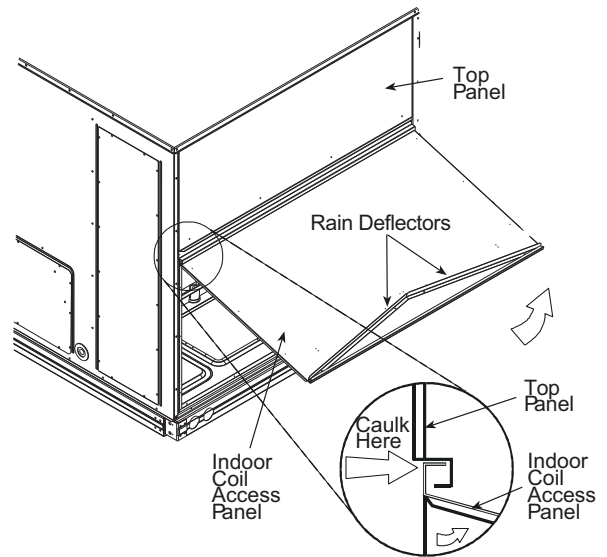

Fig. 20 — Indoor Coil Access Panel Relocation
1. The indoor coil access panel will be used as the top of the hood. If the panel is still attached to the unit, remove the screws along the sides and bottom of the panel. See Fig. 20.
7. Install the 2 rain deflectors on the edge of the hood top as shown in Fig. 20.
8. Caulk the ends of the joint between the unit top panel and the hood top as shown in Fig. 20.